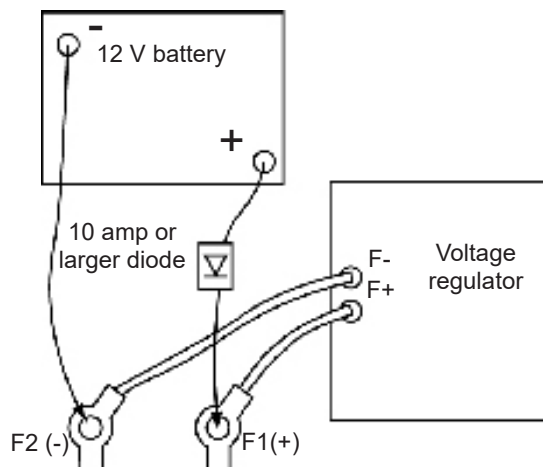

Figure 19: Field flashing setup with the field wires connected to the regulator
5. Start the generator, and check for voltage build up. Reflash if the generator output voltage does not build up, or flash with the generator running, the field coil wires connected to the regulator, and a 10-amp or larger diode off the positive terminal of a maximum 12 V battery per Figure 19.